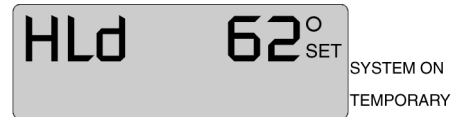

Fig. 28
a. Press . "HLd" is displayed (Fig. 28).